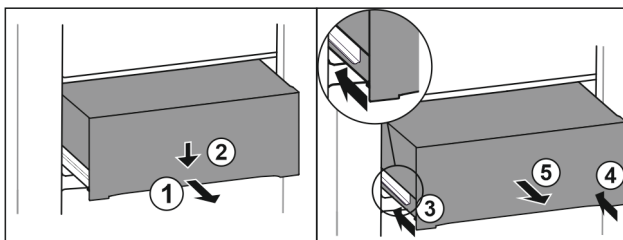

Fig. 93
- Pull out drawer half-way. Fig. 93 (1)
- Push the drawer down at the front. Fig. 93 (2)
- Push the left rail in by about 2 cm. Fig. 93 (3)
- Push the right rail in by about 2 cm. Fig. 93 (4)
- Remove drawer to the front. Fig. 93 (5)